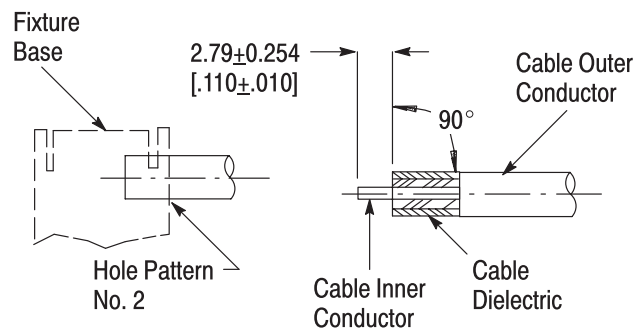

Figure 3
3.1. Prepare Coaxial Cable End (Figure 3)